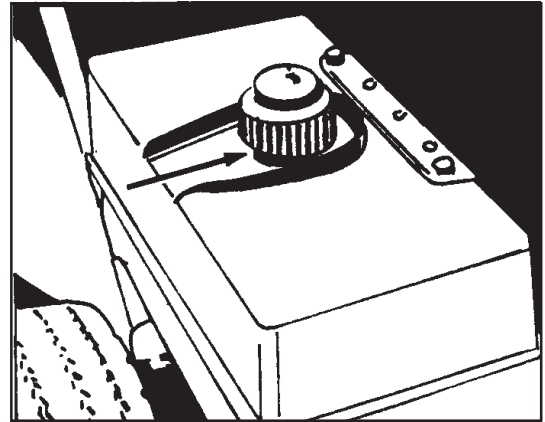

Figure 2
**WARNING:** Gasoline is very flammable. When filling the gasoline tank, make sure the gasoline does not enter the extension. See figure 2. Make sure you do not spill any gasoline. Use a cloth to remove spilled gas.